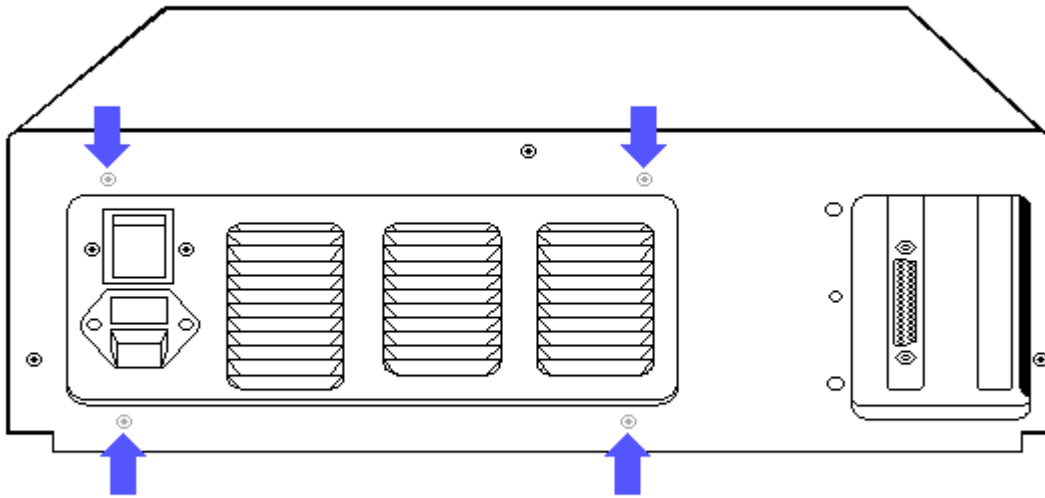

Figure 8-111. Removing the Power Supply Screws
2. Remove the four screws securing the power supply assembly to the fixed disk drive expansion unit chassis (Figure 8-111).